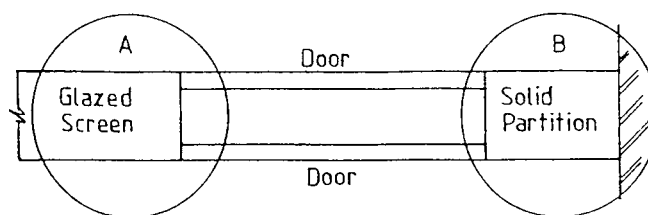

Fig.1
4. A recording studio is to be divided into TWO smaller studios with means of a sound-proof glazed screen with double access doors part of which is shown in figure 1. To a scale of 1:5 draw annotated broken horizontal sectional details to show all construction and sound proofing at A & B.